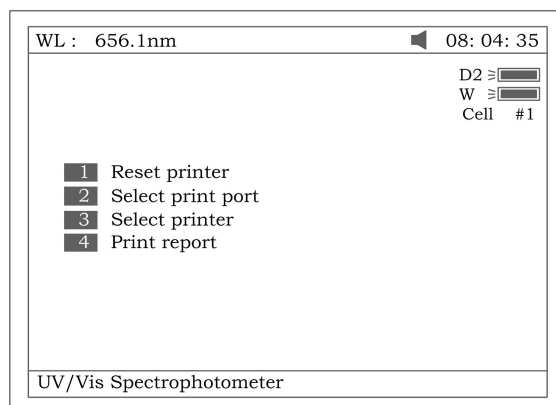
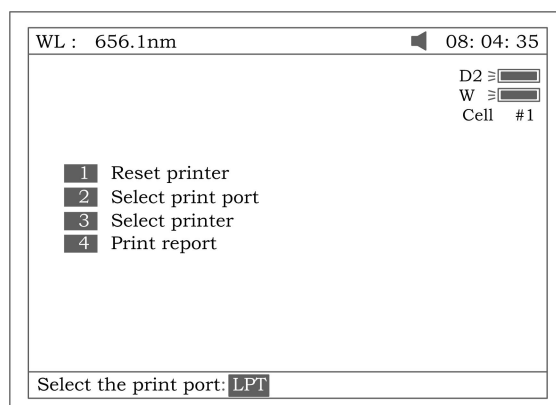
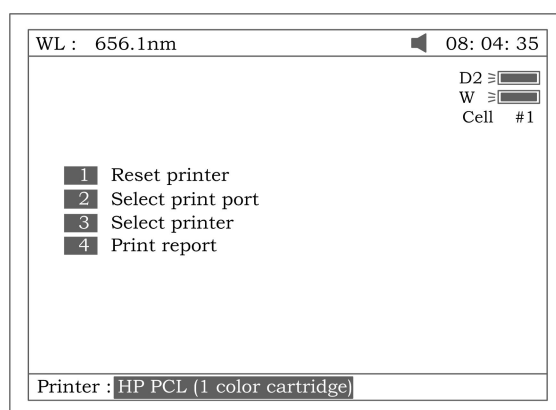
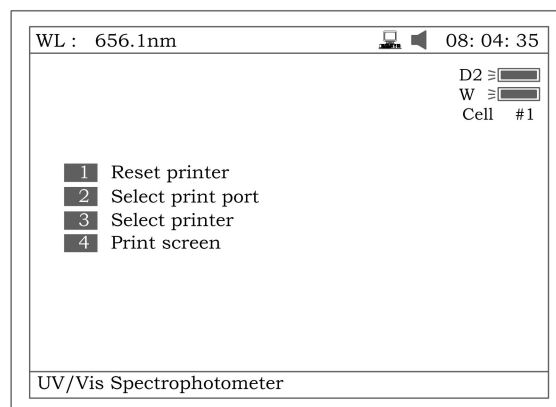

Fig 75
Fig 76
Fig 77
Fig78
Press **【2】** to set printer (Fig 75). **【ESC/STOP】** to exit.
1. Press **【1】** in Fig 75 to Reset Printer.
2. Press **【2】** in Fig 75 to select print port (LPT or Comm., Fig 76).
3. Press **【3】** in Fig 75 to select printer (HP PCL (1 colour cartridge), PCL (black mode), Epson ESC/P or Epson/P2 or above, Fig77).
4. Press **【4】** in Fig 75 to select print mode. If you select “Print screen” mode, a little icon will be displayed on the top line of the screen (Fig 78), if you select “Print report” mode, the little icon will disappear.